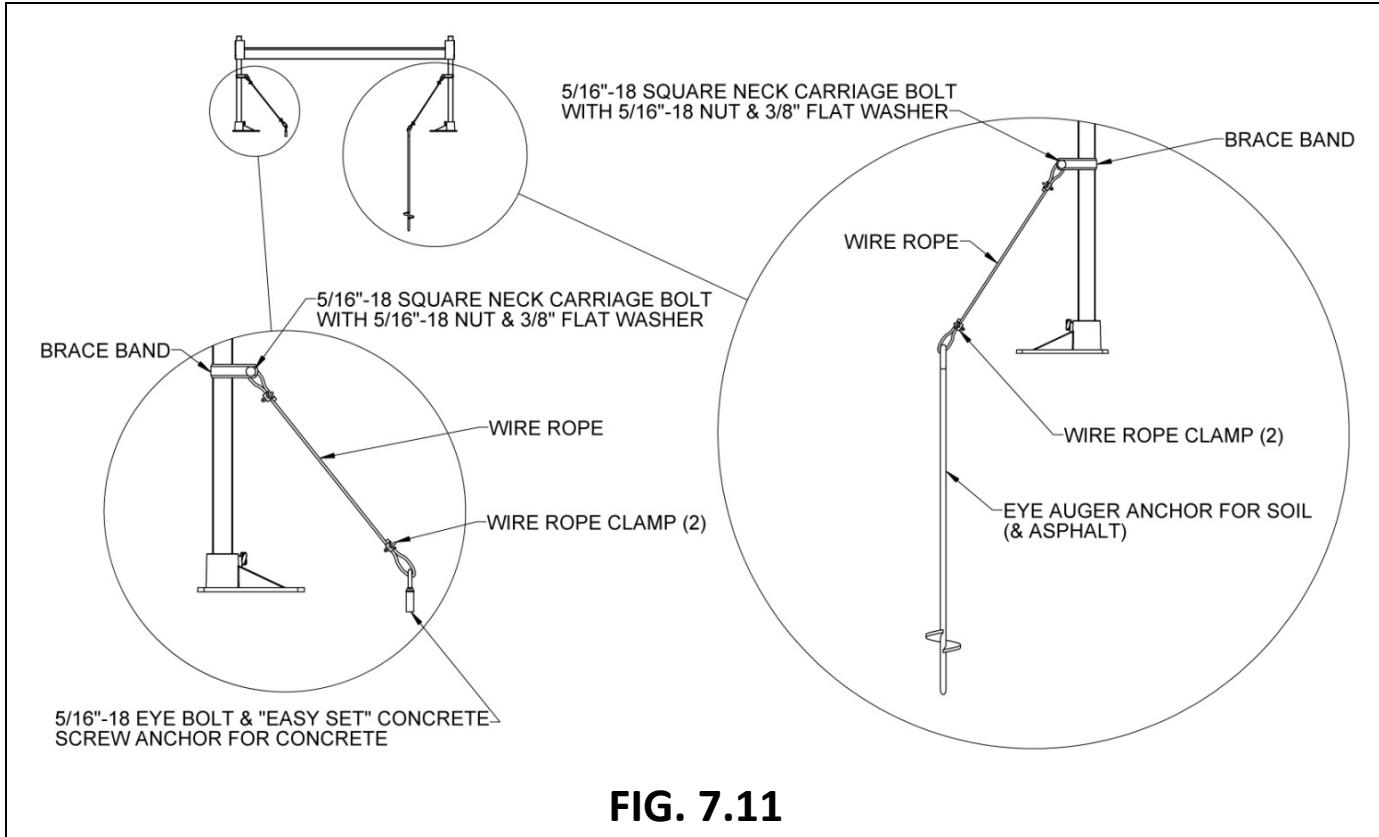

FIG. 7.11
- 7.7.3. For platforms, install one tie down at each corner where a support tube is installed (FIG. 7.11).